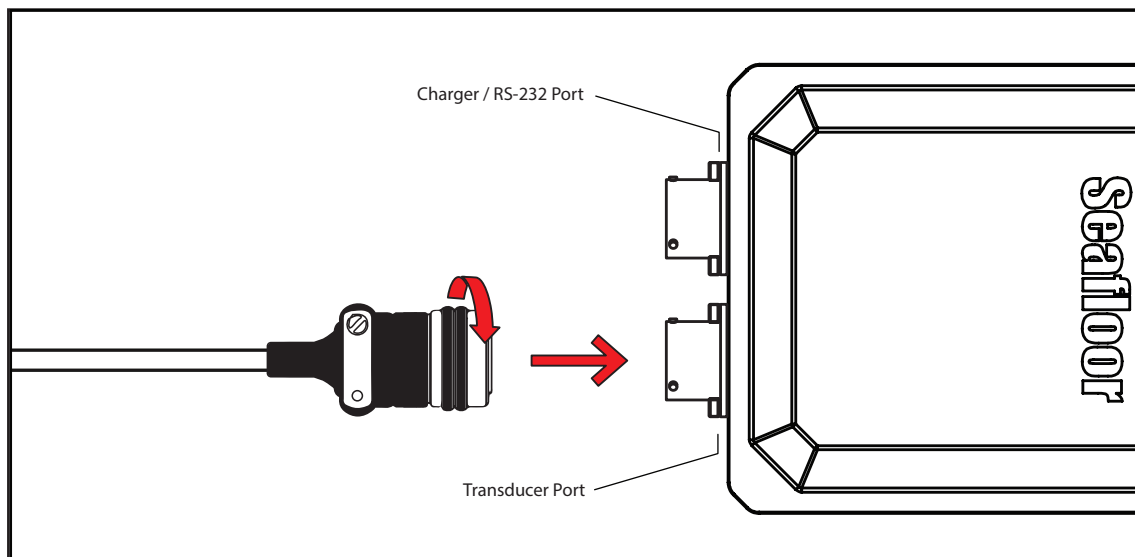

Figure 8: Topside Powering On
1. Using Figure 8, connect the transducer connector into the transducer port.